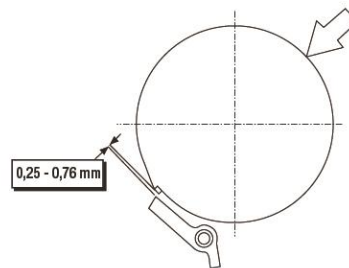

Figure 1
4. Align the cam face and actuator tip as shown in Figure 1.
5. Push the collar as indicated by the arrow in Figure 1 to take up the free collar play.
REFER TO FIGURE 1.